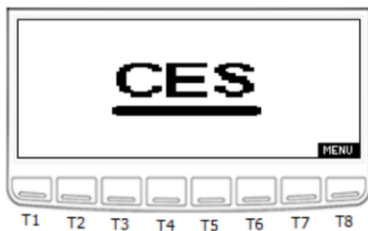

Figure 1. Introduction Splash Screen
3. Press The T8 button (as displayed in figure 1 & 2) to enter the “Main Menu”.